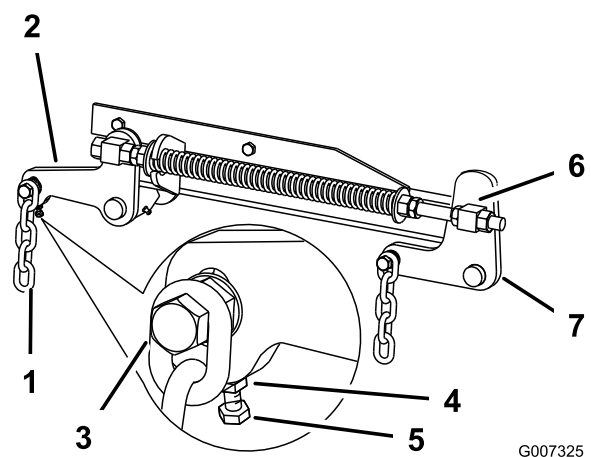

Figure 62
7. If the measurements at positions **B** or **C** are not correct, loosen the bolt attaching the rear chain to the rear support arm (Figure 62).
- Loosen the jam nut under the rear support arm and adjust the adjustment bolt to get a measurement of 3-1/8 to 3-1/4 inches (80 to 83 mm) (Figure 62).
- Loosen the front swivel jam nuts, at the front of the right and left swivels, approximately a 1/2 inch (13 mm) (Figure 62).
(6 to 10 mm) lower in front at **A** than in the rear at **B** (Figure 62).